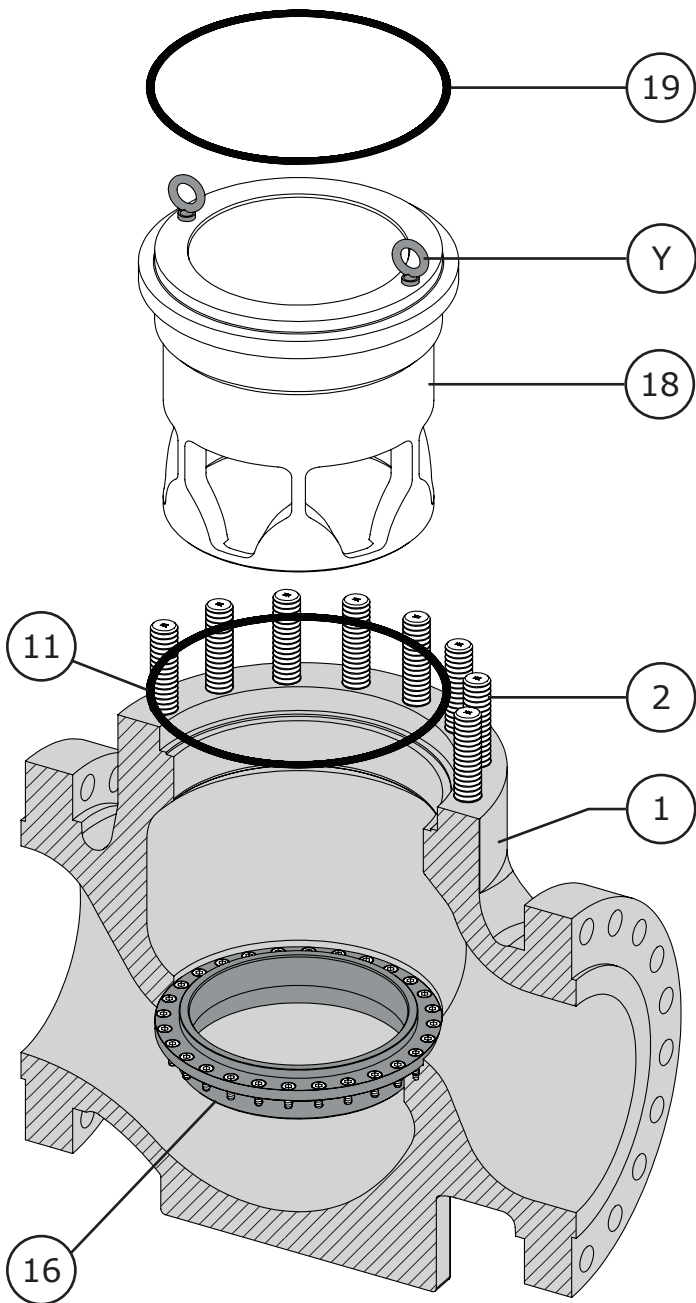

Figure 11 Trim Parts Removal - 371 (Steps 2 - 3)
- 3 The cage (Key 18) is equipped with tapped holes to install lifting bolts. Using lifting bolts (Key Y), carefully remove the cage. Refer to Figure 11.